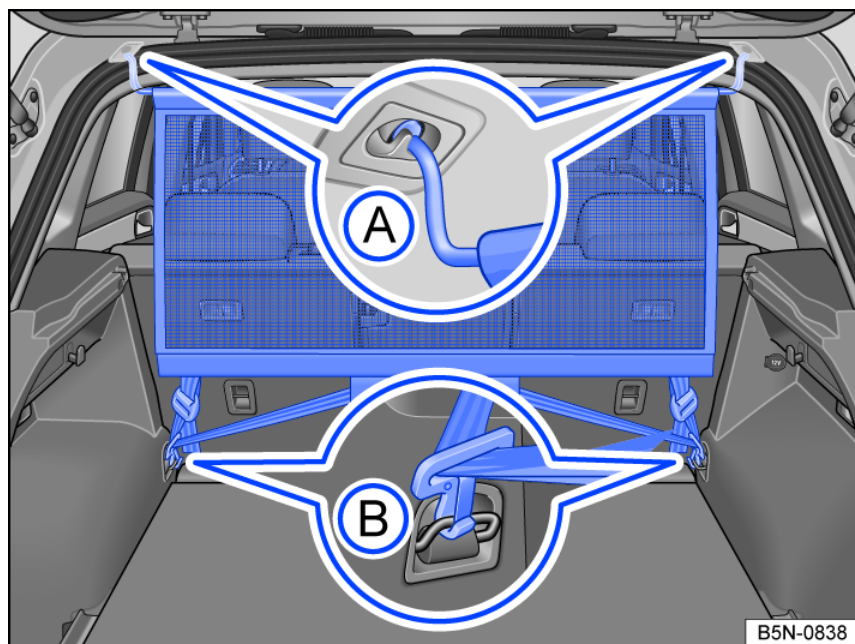

Fig. 160 In the luggage compartment: Install the net partition behind the rear bench seat.
- Attach the net partition to one of the two mounts in the roof fig. 160 \(A\). Make sure that the crossbar is pulled down over the top position.
- Attach the net partition to the opposite mount in the roof by pressing together the crossbar fig. 160 \(A\).
- Attach both retaining hooks of the net partition to the tie-downs in the luggage compartment and tighten the fastening straps fig. 160 \(B\).
- Unhook the net partition retaining hooks from the tie-downs *fig. 160* **B**.